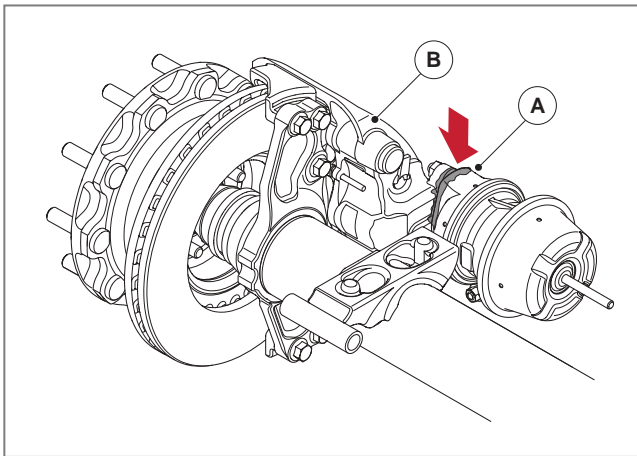

Fig. 23 - Mating surfaces of the brake chamber and brake calliper
2. Thoroughly clean around the mating surfaces of the brake chamber (A) and brake calliper (B) to ensure that dirt does not get into the mechanism area when removing the brake chamber, see ► **Fig. 23**.